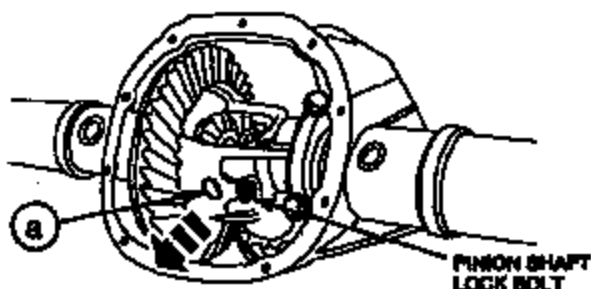

FIGURE 7
8. Remove the differential pinion shaft lock bolt (refer to Figure 7).